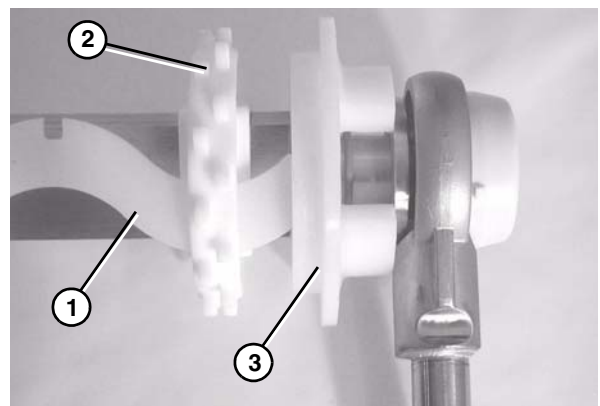

Figure 67
3. Insert the sprocket alignment bar (**Figure 67, item 1**) into the first sprocket (**Figure 67, item 2**) resting it up against the flanged puck (**Figure 67, item 3**). Position the first sprocket with the notch in the sprocket alignment bar.